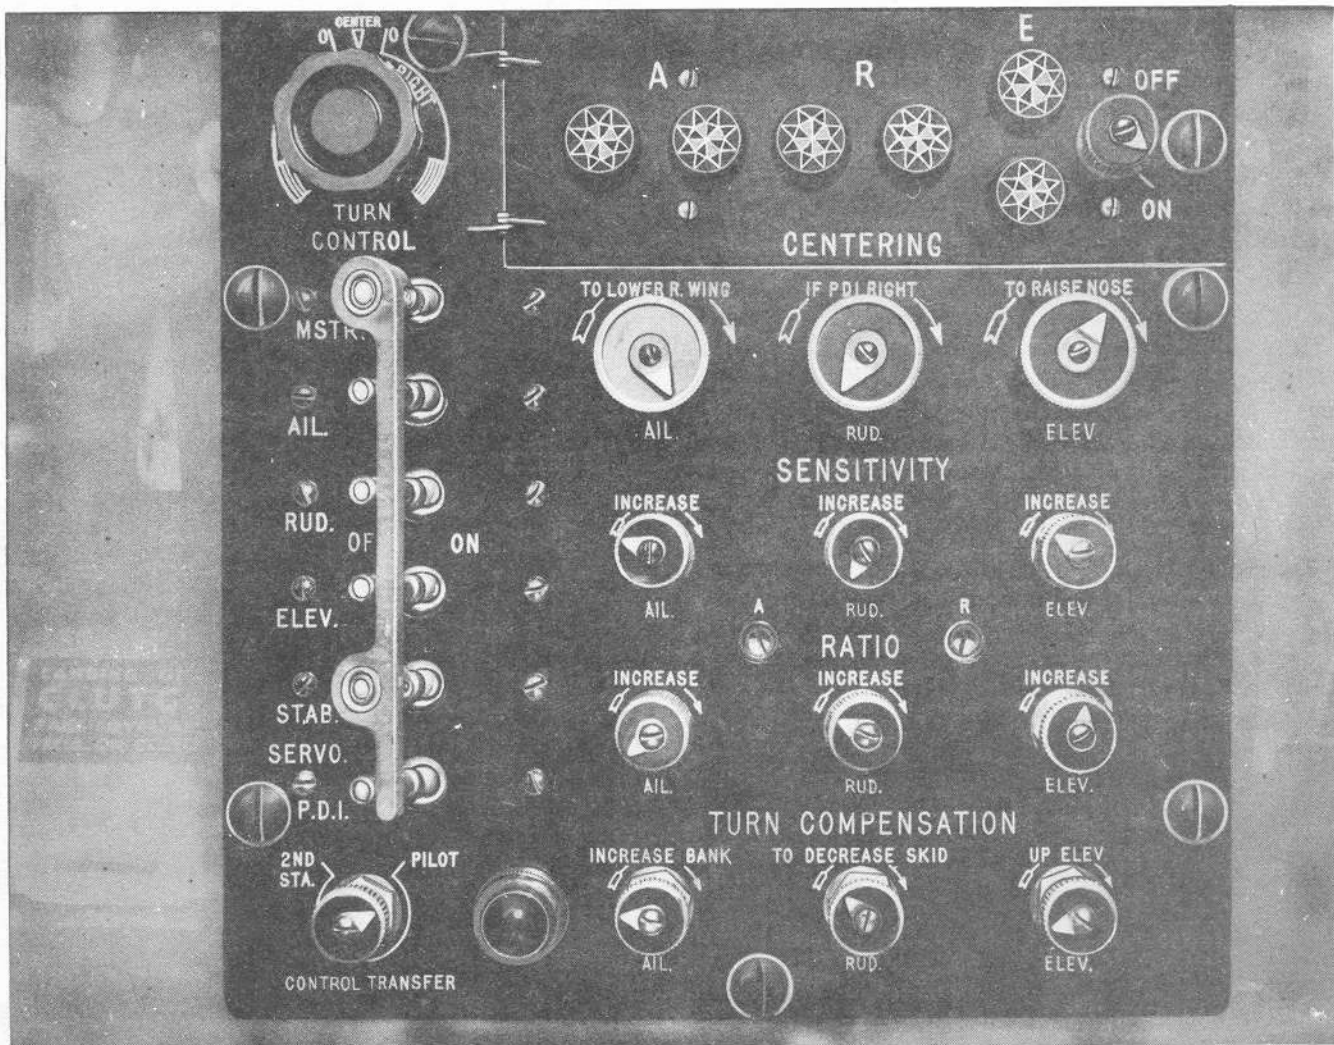

Figure 17—Automatic Flight Equipment Controls
k. AUTOMATIC FLIGHT CONTROL EQUIPMENT.—Automatic flight control units are mounted on a board assembly located between the two bomb bays. A walkway covers the equipment. Pilots' operating controls (figure 17) on early AT-11 airplanes, are located in upper right corner of pilots' compartment